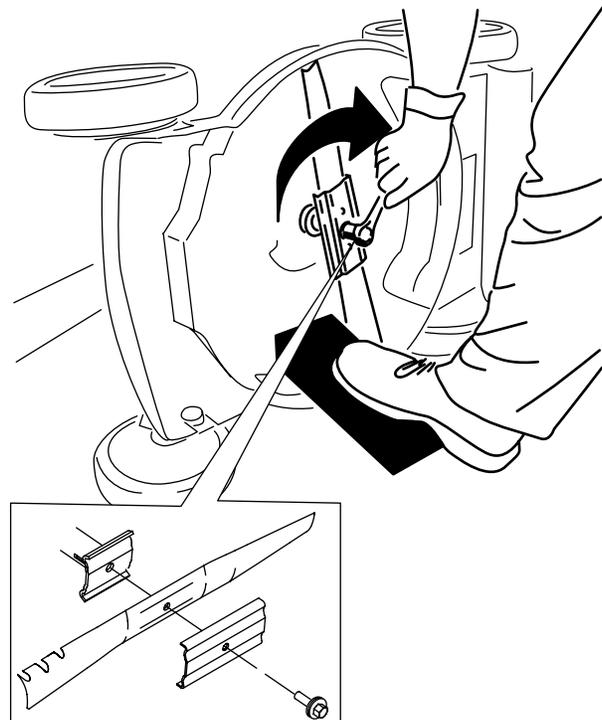

Figure 22
4. Install the new blade and all mounting hardware (Figure 22).